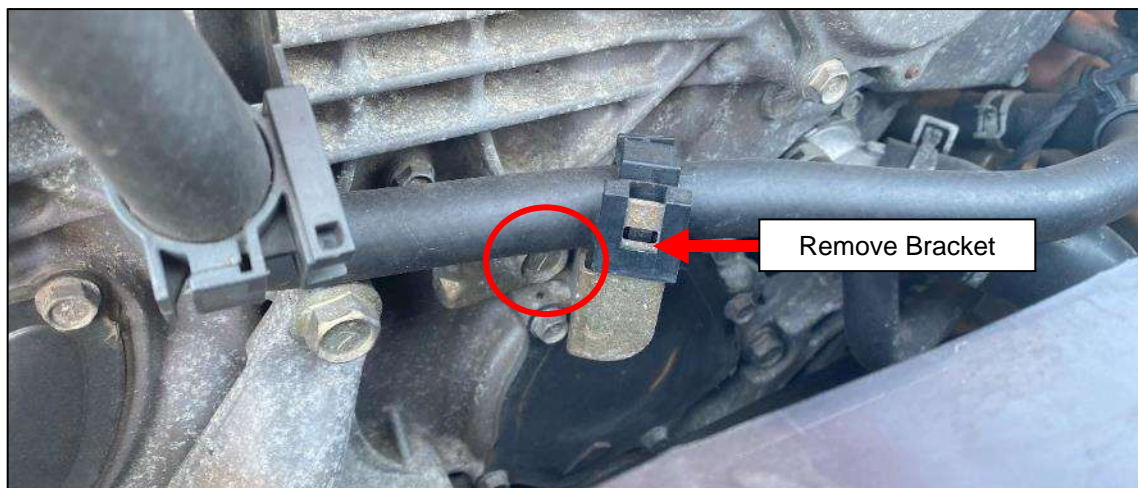

Figure 40
5. Remove the (1) one bolt securing the Coolant Crossover Pipe bracket to the Timing Cover. The bracket will need to be completely removed. Retain the bolt. *Figure 40.*